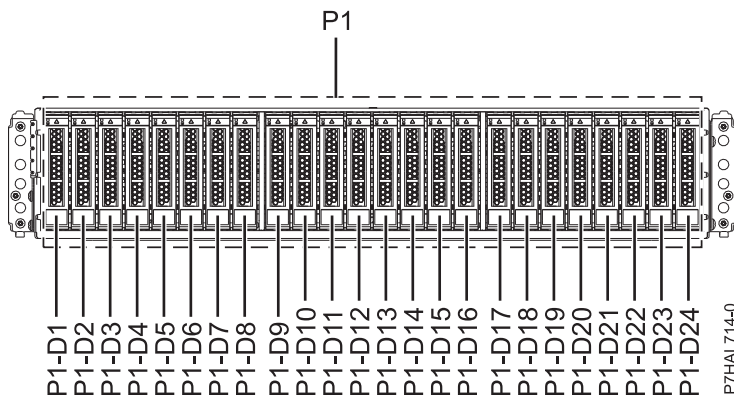
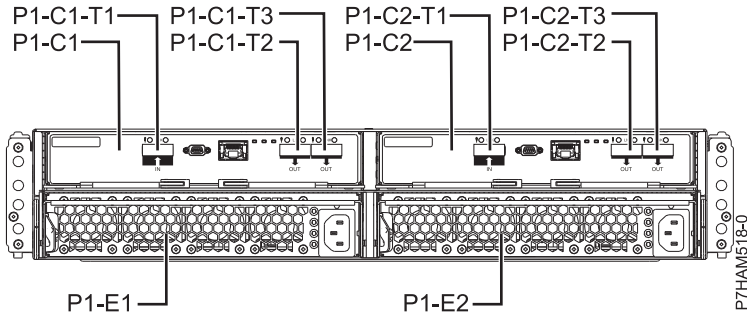

Figure 21. Front view of the 5887 disk drive enclosure showing the disk drive locations
Figure 22. Rear view of the 5887 disk drive enclosure
2. Identify the part and the enclosure that you want to service. The disk drive and SSD slots are located in the front of the enclosure. Figure 21 and Figure 22 on page 21 show the front view and rear view of the 5887 disk drive enclosure and the disk drive locations in the 5887 disk drive enclosure.